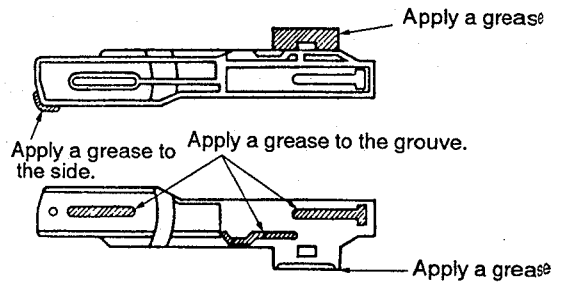

Fig. 12
① Grease the spring slanting cam. (Fig. 12)